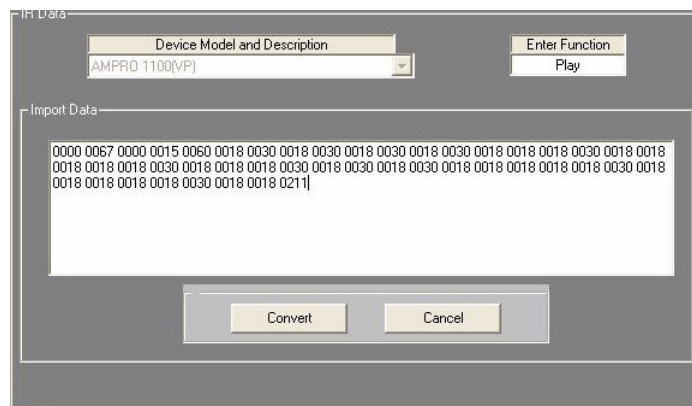

FIG. 81 AMX Library Files dialog - Hex data entered
3. Copy and paste the appropriate Hex code for this function in the *Import Data* text field (FIG. 81).